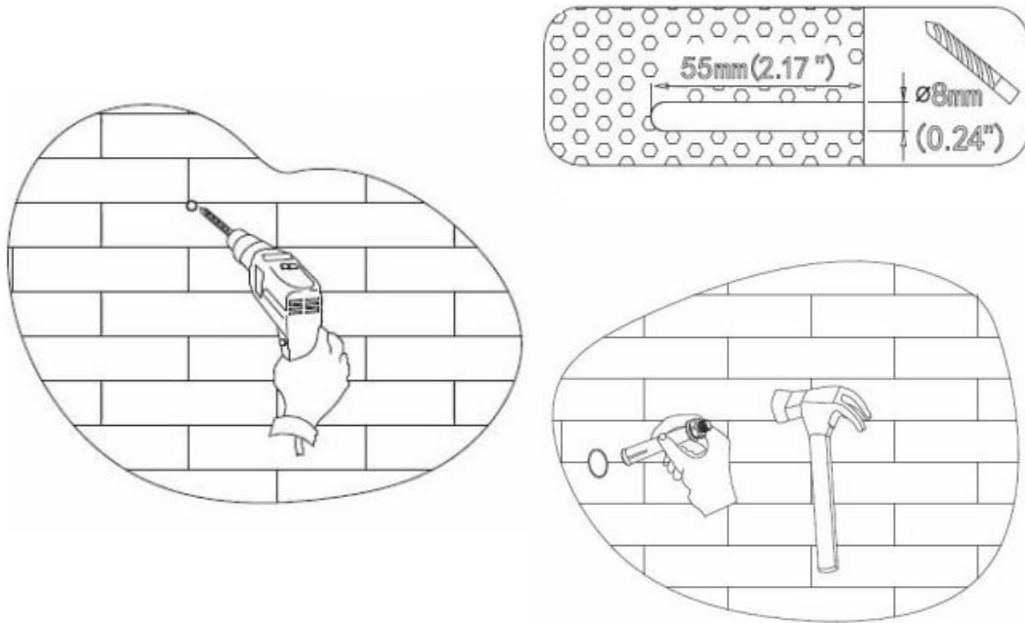

Figure 4-4
Step 2: Use $\Phi 8$ drill bit, drilling depth 55mm, install expansion threaded pipe ,refer to Figure 4-4